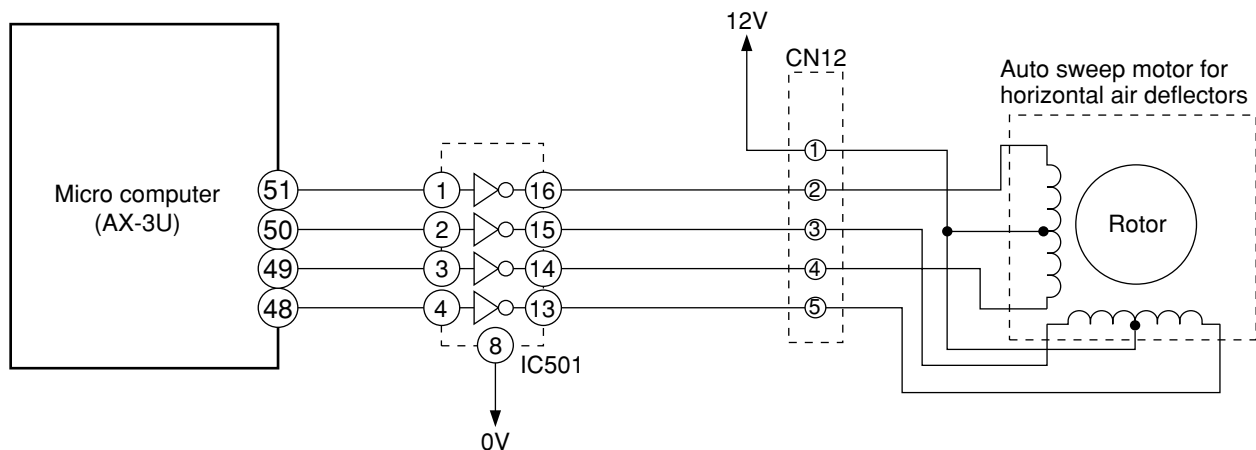

Fig. 7-1 Auto Sweep Motor Circuit (Horizontal air deflectors)
- Fig. 7-1 shows the Auto sweep motor drive circuit; the signals shown in Fig. 7-2 are output from pins ④⑧—⑤① of the micro computer.